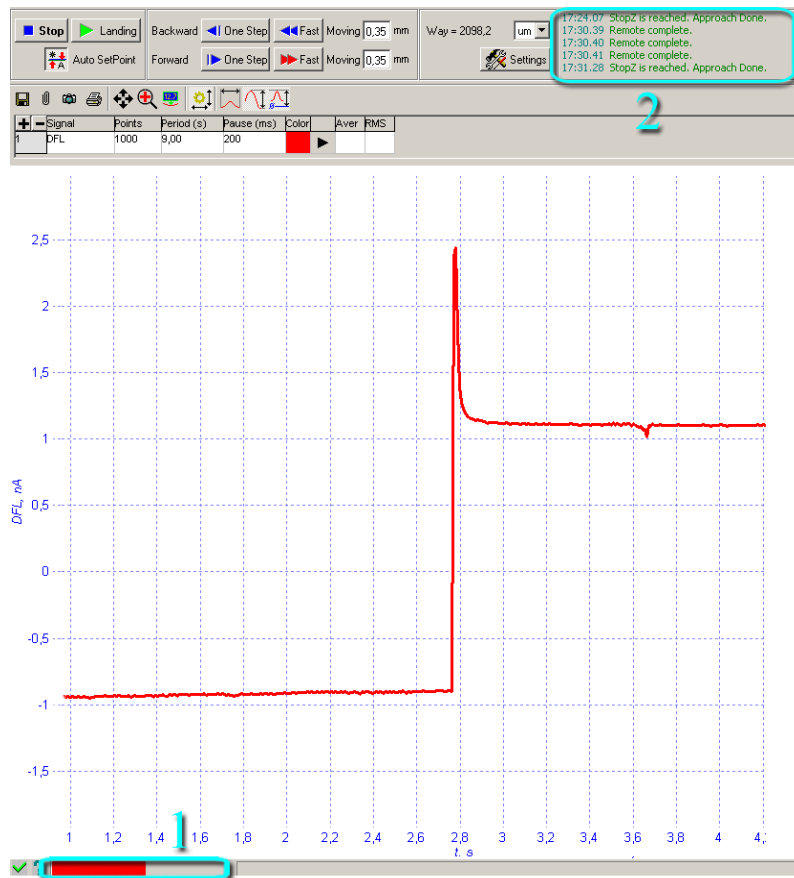

Fig. 3-5. Completing of approach procedure
If the approach parameters are set correctly, the procedure is completed after some time, leading to the following (see Fig. 3-5):
- the length of the indicator's color bar decreases and stops somewhere in the middle (pos. 1 in Fig. 3-5);
- the increase of **DFL** signal to the value of **Set Point** parameter is represented on **DFL (t)** trace on the oscilloscope (Fig. 3-5);
- the message "...Approach Done." will appear in the journal (pos. 2 in Fig. 3-5).